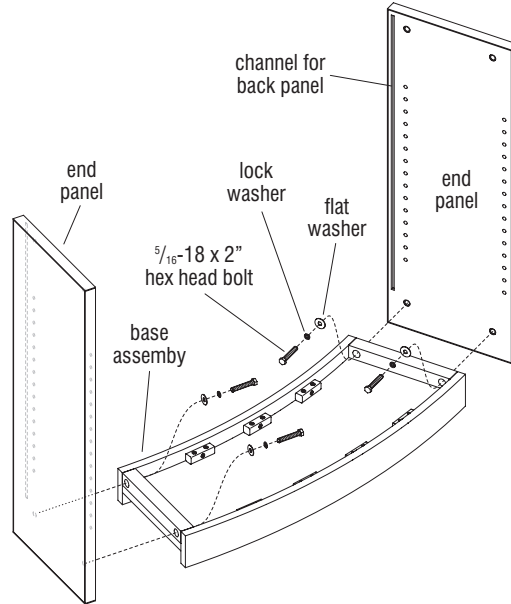
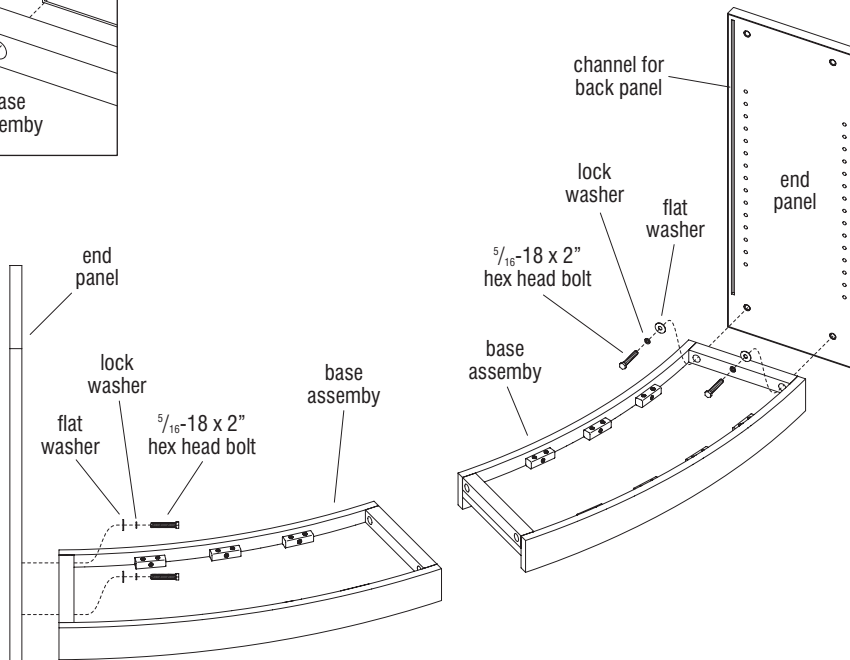

Figure 1 - Stand-Alone Curved Shelving
Figure 2 - Starter & Adder Curved Shelving
1. If the shelving unit being assembled is a stand-alone unit, carefully place the base assembly in the desired installation location (Figure 1). If the shelving unit being assembled contains a starter and adder, arrange all the base assemblies to the approximate final installation location, leaving a gap in between the base assemblies for a shared intermediate panel (Figure 2).
Note: The end and intermediate panels must be installed in a specific orientation, with the channel for the back panel to be oriented to face inside the shelf unit and at the rear of the shelf. Also, the channel must end closer to the top of the panel at the top, to have a larger gap below it at the bottom of the panel (Figures 1 & 2). If end, or intermediate panels are not installed in the correct orientation, the panels will not fit the base assembly correctly and disassembly and re-assembly will be required (Figures 1 & 2 & Detail A).
2. First orient end panels as noted above, then align the threaded inserts on the bottom of the end panel to the mounting holes on the designated side of the base assembly, based on your configuration. Place a lock washer and flat washer on each of the two $\frac{5}{16}$ -18 x 2" hex head bolts. Using a bolt in each base assembly mounting hole location, secure the end panel to the base assembly. If the unit being assembled is a stand-alone unit, repeat this process to install the second end panel, then proceed to "Base Shelf Installation" instructions on page 3. If the unit being assembled is a starter and adder configuration, repeat this process to install the second end panel to the designated side of the second base assembly (Figures 1 & 2 & Detail B).